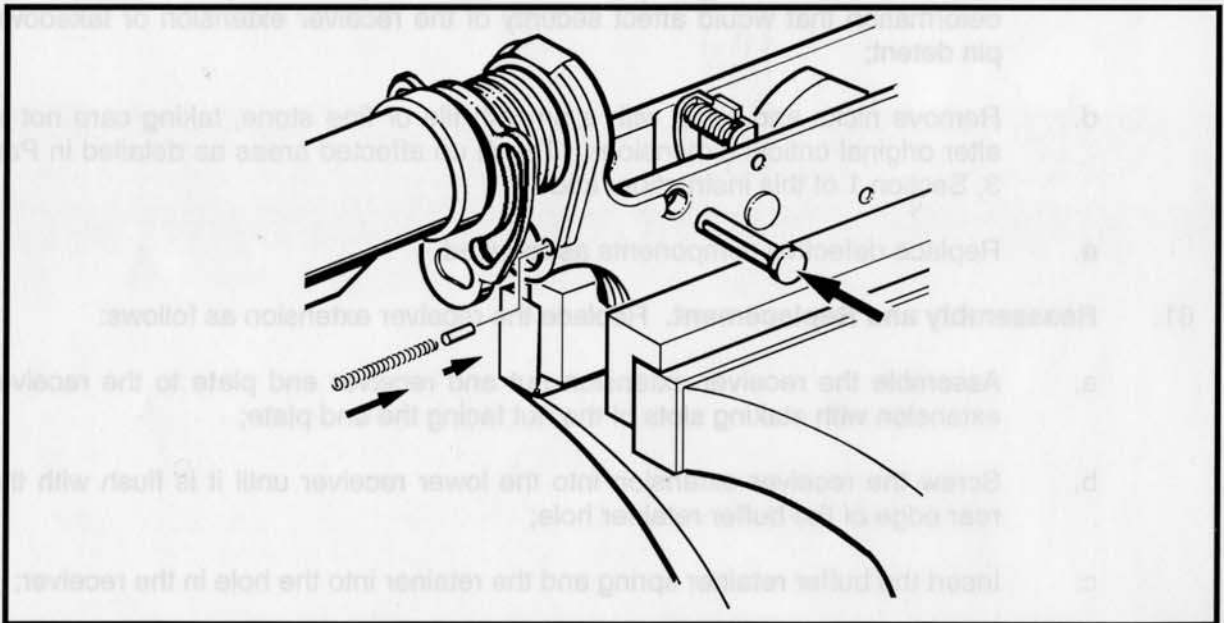

Figure 3-2-54 Reassembling the Receiver Extension
- g. Realign the receiver extension and end plate with the receiver contours and press the end plate forward to trap the detent spring in the receiver. See Figure 3-2-54;